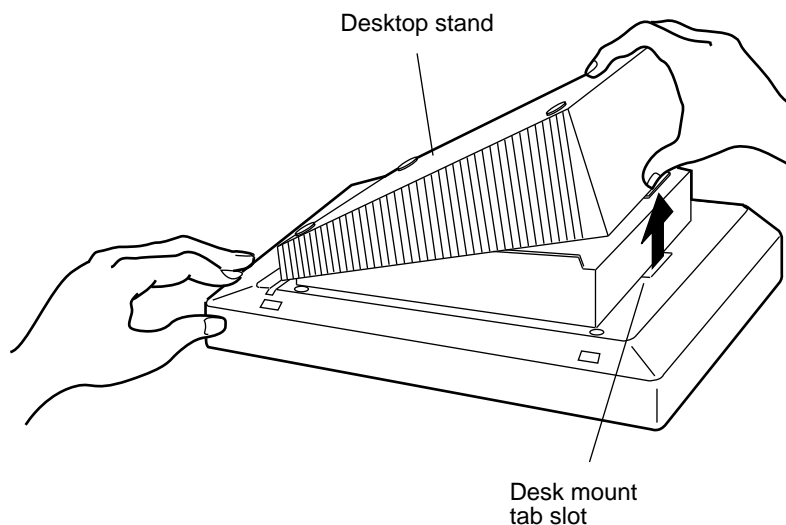

FIGURE 7-6. Removing the Desktop Stand
2. Remove the desktop stand which is attached to the base of the voice terminal by tabs on the top and bottom of the stand, as shown in Figure 7-6.
6. Remove the desktop stand which is attached to the base of the voice terminal by tabs on the top and bottom of the stand (See Figure 7-6).